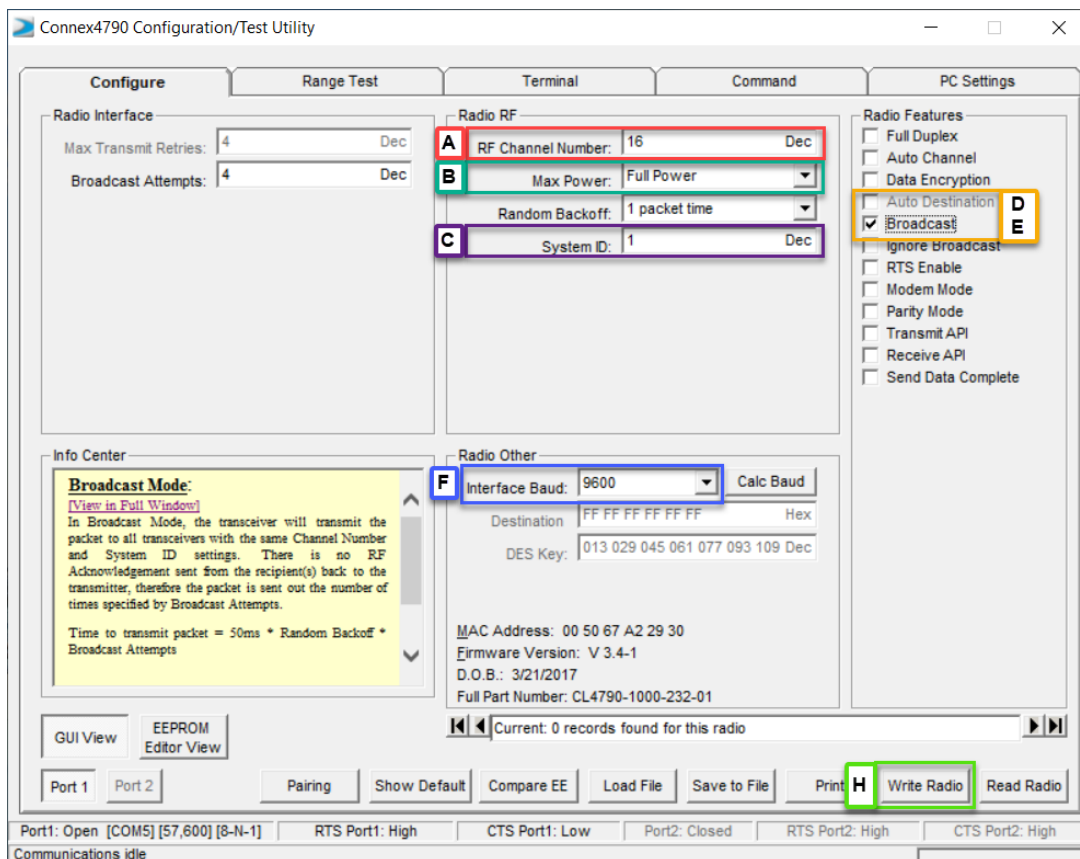

Figure 15: Configuring First Unit
- h. Click Write Radio to save the configuration changes to the radio. (See Figure 15)